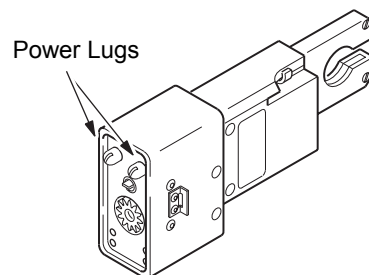

Figure 28 Cleaning the Weld Head Power Lugs
4. Clean the two power lugs on the weld head with the provided stainless steel wire brush. See Figure 28.